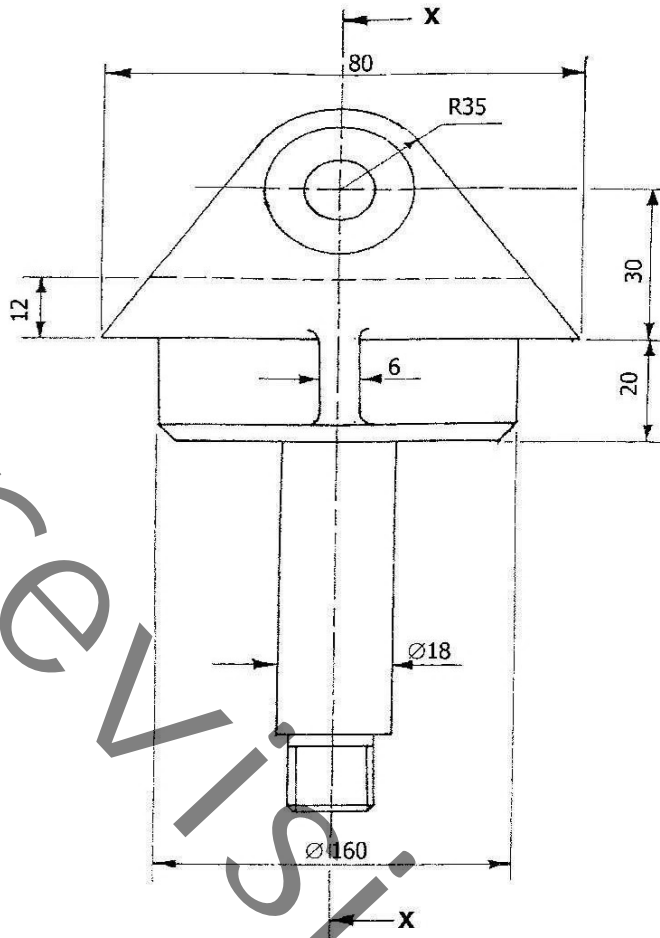

FIGURE 2
The insert contains **Figure 2** for Section 2.
- 2 **Figure 2** shows in First Angle Projection details of the components of a **SWIVEL BRACKET** – which are assembled as follows: